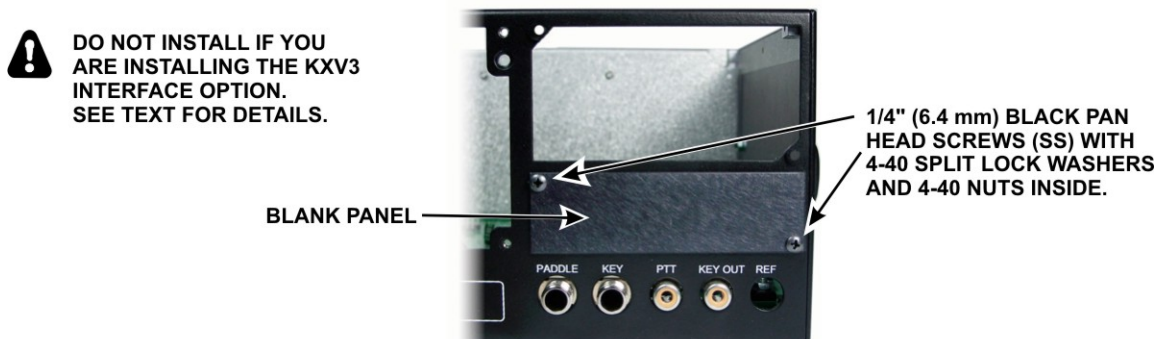

Figure 31. Preparing Rear Panel for KIO3 Installation.
- If you have purchased the KXV3 option with your kit, go to the *Installation Procedure* in the KXV3 manual and install the option now, following the instructions in the *Special Note to K3 Kit Builders*. Otherwise mount the small blank panel in the space directly above PADDLE, KEY, PTT and KEY OUT connectors on the rear panel as shown in Figure 31.